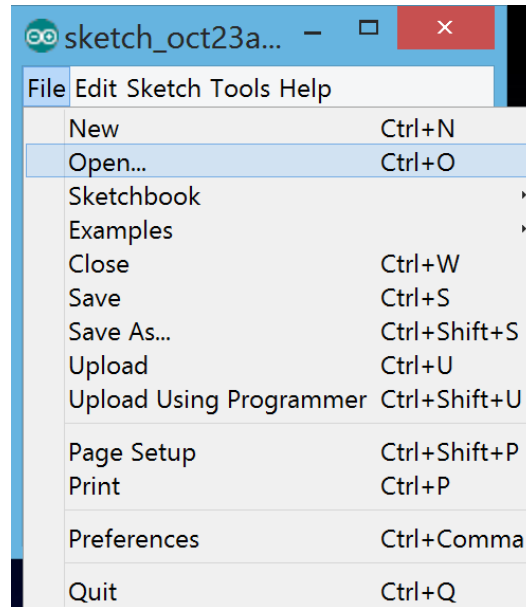

Figure 2.12: Open files in the Arduino IDE software
- Click “File → Open...” (Figure 2.12).